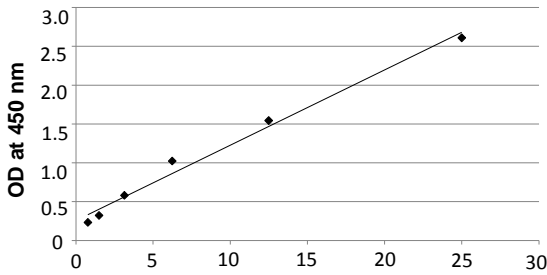
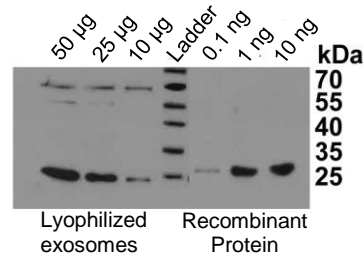

Figure 4. CD9 titration of plasma healthy donor exosome standards.
Figure 5. CD9 marker detection by Western Blotting on lyophilized exosomes from human plasma and the recombinant CD9 protein.
10. Sensitivity: The sensitivity of the ExoQuant™ was compared to Western blot. The data reported in Figure 4 and 5 demonstrate that the sensitivity of the ExoQuant™ is higher than that of Western blotting. Figure 5 shows that 10 µg of lyophilized exosomes is equivalent to 0.1 ng of recombinant exosomal protein (CD9). Since the standard curve's lower concentration is 0.39 µg of lyophilized exosomes (Figure 4), the sensitivity of our test is around 39 pg of protein equivalent.